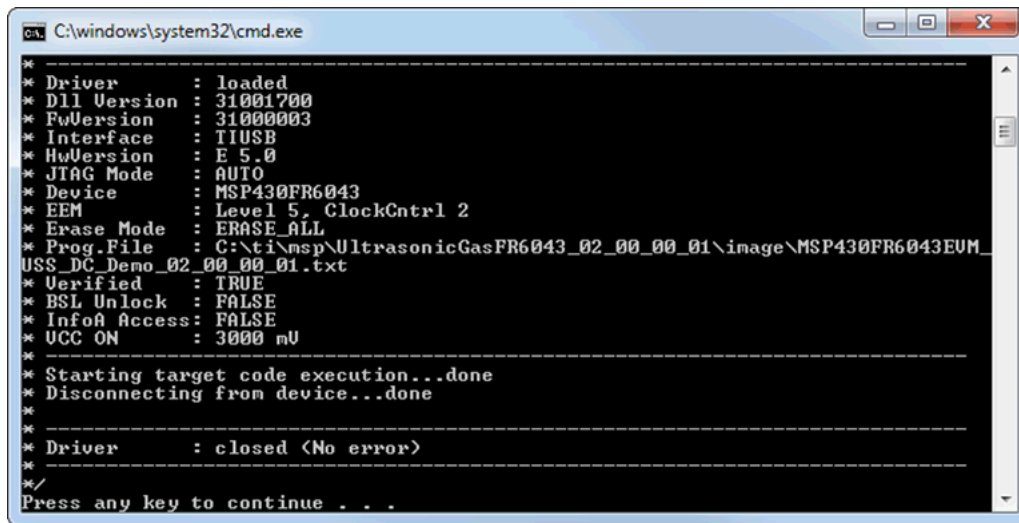

Figure 11. Successful Execution of MSP Flasher
- MSP Flasher detects the EVM and programs the device (see Figure 11).